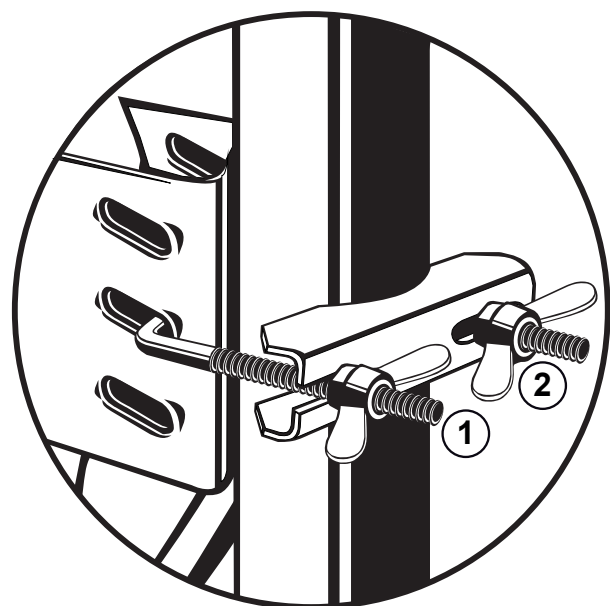

Fig. 8: Setting the Direction (azimuth)
2. Slightly loosen the wing nuts on the mast clip (①, ② in Fig. 8).